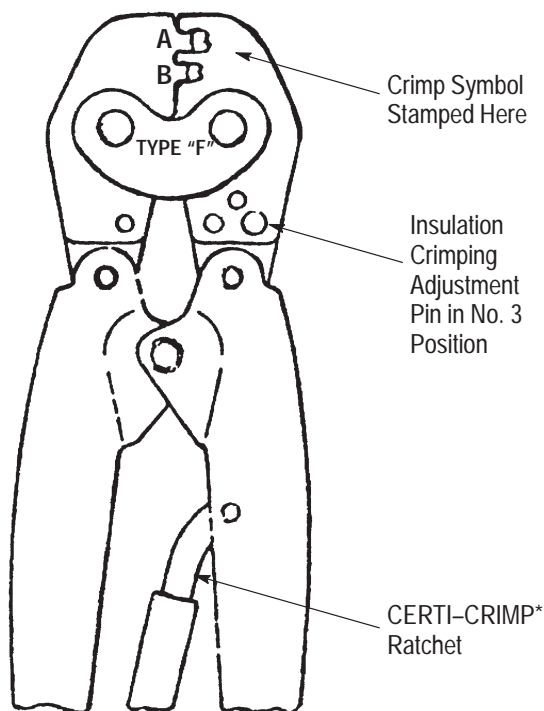

Figure 1
Crimping tools 575937 and 575938 (See Figure 1) are used to crimp the MATE-N-LOK Terminals listed in
2. Place the insulation crimping adjustment pin in the No. 3 position. See Figure 1.
1. These tools is equipped with a CERTI-CRIMP Ratchet (see Figure 1) to ensure proper crimping. To open the tool handles, squeeze them until the ratchet releases.